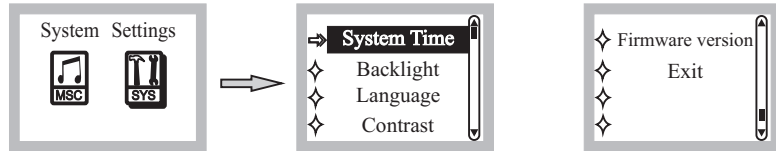

Fig. 18
- (2) System Settings Mode: Press PRV/TEN ◀◀ or the NEXT/TEN ▶▶ to change functions, press PLAY/PAUSE ▶▶ to confirm and enter system settings, Fig. 18.